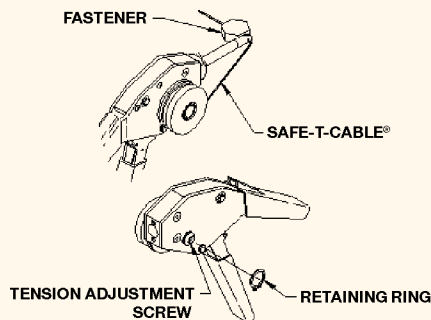

FIGURE 17: Adjustable Tension Safe-T-Cable® Tool
3.2 Adjustable tension tool (Figure 17). Thread the Safe-T-Cable® through the fastener, ferrule, and tool nose in the same way as with other models. Wrap the cable one full revolution (clockwise) around the tension wheel, and with slight pressure applied by pulling the cable, secure the cable into the slot. Rotate the tension knob until several clicks are heard and felt. If additional tension is required, adjustment can be made with the tension adjuster on the opposite side of the tool.
3.2.2 If it is more convenient to use the adjustable tension tool with the wheel located on the opposite side, you may remove the retaining ring located below the tension adjuster, slide the knob assembly out of the tool body, and re-insert it on the opposite side. Re-install the retaining ring (Figure 17).